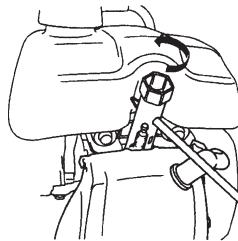

Fig.12
- Check the spark plug seal - ring, screw in the spark plug with special spanner so as to protect its threads (as shown on the Fig.12).